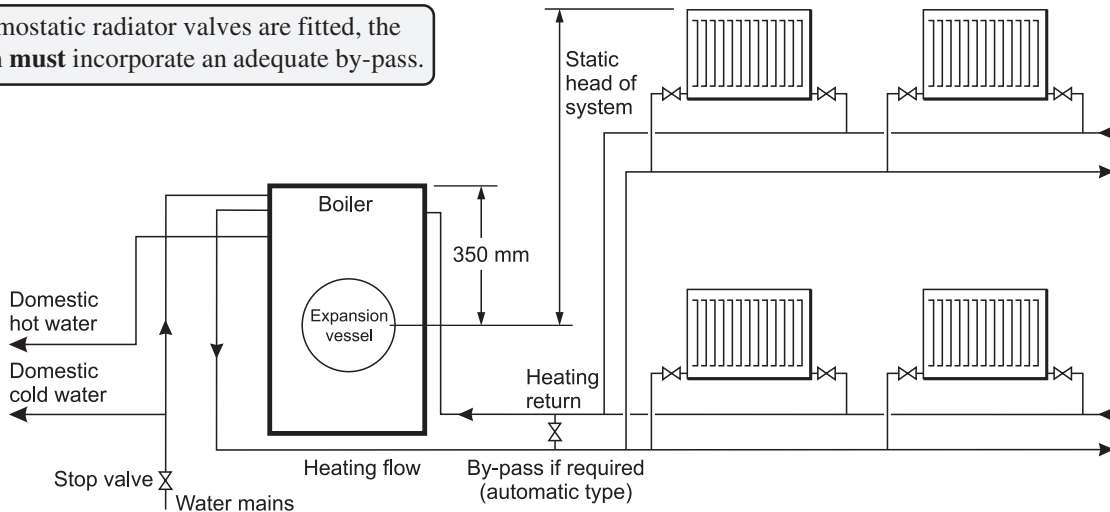

Fig. 14 - Sealed system boilers
- 8 The system design pressure (cold) should be between 0.5 and 1.0 bar. This pressure is equivalent to the maximum static head (see Fig. 14) in bar + 0.3 (1 bar = 10.2 metres of water).